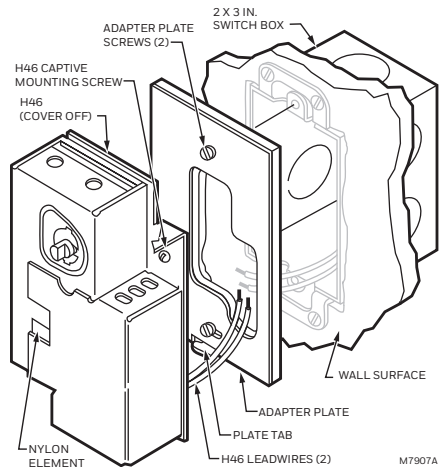

Fig. 1. Mounting H46C on vertical switch box.
4. Using the two screws provided, fasten the adapter plate to the switch box as shown. See Fig. 1.